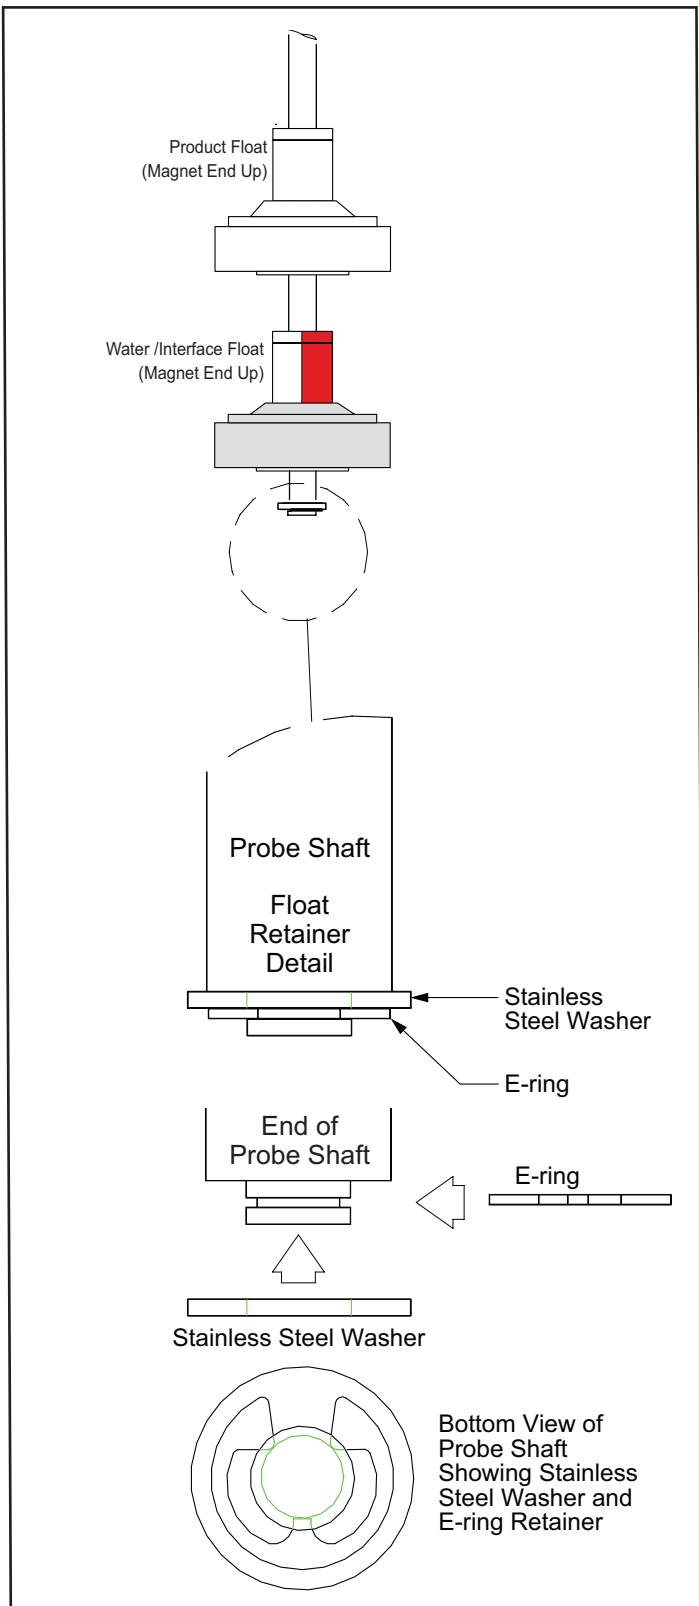

Figure 2:Float & Retainer Installation Detail
- Use a small flat bladed screwdriver to pry-off/remove the E-Ring from the bottom of the probe shaft. Then remove either the stainless steel float retainer washer or the plastic bottom mount retainer. See Figure 2.
- Install the floats per Figure 2. Product float first (magnet end up) and then the water float (magnet end up).
- Install the stainless steel, “float retainer” washer at the bottom of the probe shaft. Slide the E-Ring into the groove below the stainless steel washer. See Figure 2.